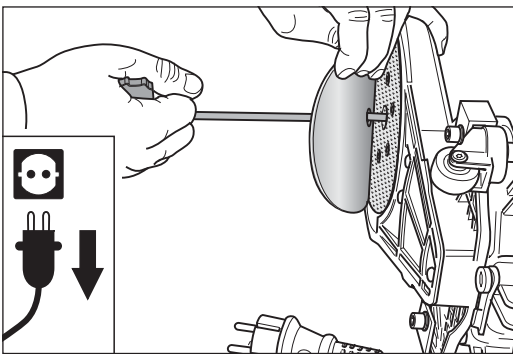

Fig. 15 Mount the new Velcro sanding disc in a centered position and press down.
- 4 Place a new Velcro sanding disc on the sanding plate. The Velcro sanding disc must be positioned in the center of the sanding plate. The hole in the center of the sanding disc and the universal spanner make this step easier (fig. 15).